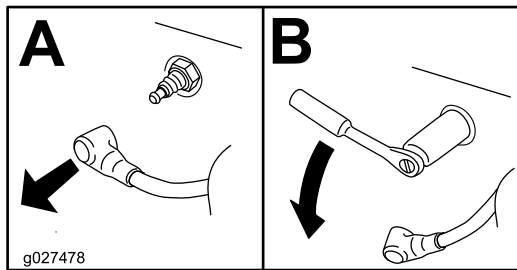

Figure 42
3. Remove the spark plug (Figure 42).